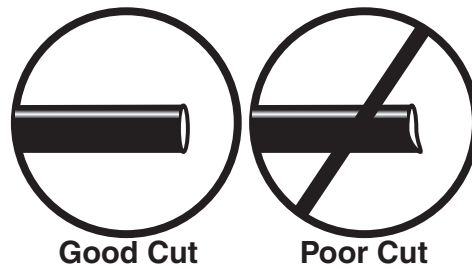

fig. 5
WHEN CUTTING OR TRIMMING THE AIR LINE, USE A HOSE CUTTER, A RAZOR BLADE OR A SHARP KNIFE. A CLEAN, SQUARE CUT WILL ENSURE AGAINST LEAKS. DO NOT USE WIRE CUTTERS OR SCISSORS TO CUT THE AIR LINE. THESE TOOLS MAY FLATTEN OR CRIMP THE AIR LINE, CAUSING IT TO LEAK AROUND THE O-RING SEAL INSIDE THE ELBOW FITTING (FIG. 5)
7. On the passenger side only, place the provided thermal sleeve (T) on the air line near the exhaust.
8. Cut off air line leaving approximately 12" of extra air line. A clean square cut will ensure against leaks (see fig. 5). Insert the air line into the air fitting. This is a push to connect fitting. Simply push the air line into the 90° swivel fitting until it bottoms out (9/16" of air line should be in the fitting).
- a. Check the air line connection by deflating the spring and removing the line by pulling the collar against the fitting and pulling firmly on the air line. Trim 1" off the end of the air line. Be sure the cut is clean and square (see fig. 5). Reinsert the air line into the push-to-connect fitting.